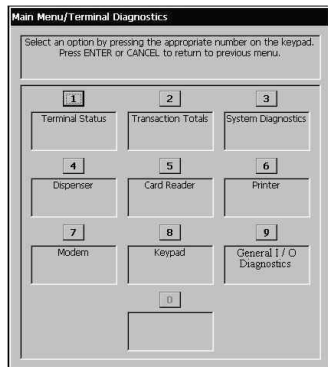

Fig. 7-4. Terminal diagnostics menu.
4. Select the **Diagnostics** option by pressing number **(2)** on the alphanumeric keypad. The **Terminal Diagnostics** main menu appears. (Figure 7-4)